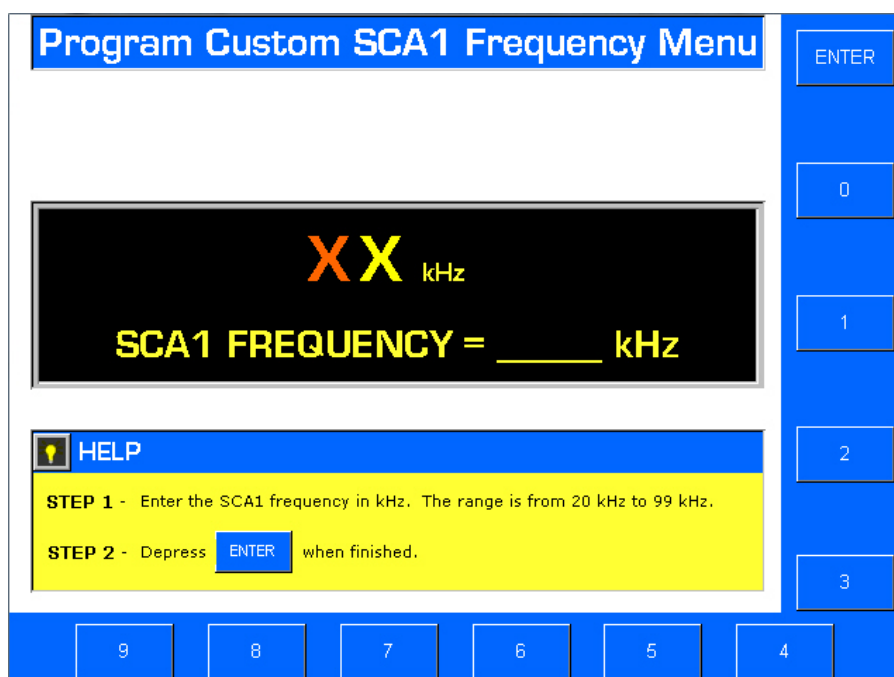

Figure 3-19. INTERNAL Custom SCA1 FREQUENCY MENU
1. Select CUSTOM FREQ. The Internal SCA1 Custom Frequency Menu will appear (refer to Figure 3-19).